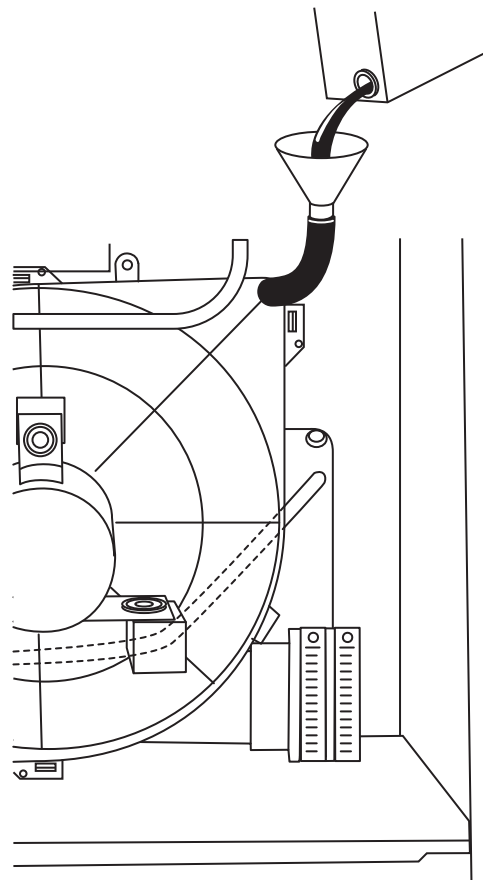

Fig. 33 - Antifreeze into Funnel / Tube
7. Replace blower access panel and main furnace door (See Fig. 33 and 34) or filter cabinet door (Fig. 29 and 30).
- Pour 1 quart of antifreeze into funnel/tube. Antifreeze should run through inducer housing, overfill condensate trap, and flow into open field drain. (See Fig. 33.)